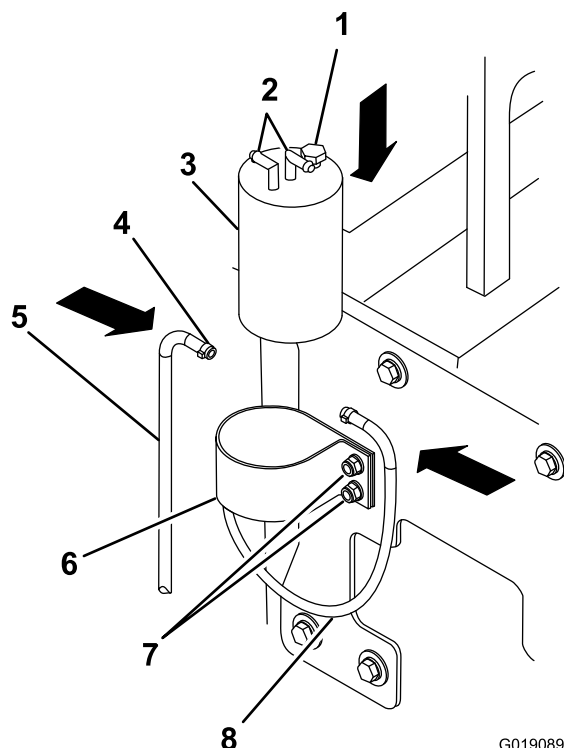

Figure 65
1. Remove the hex-head plug from the replacement fuel filter/water separator (Figure 65).
5. Install the replacement canister in straps with the hex-head plug toward the heat shield (Figure 65).
6. Tighten the nuts that secure the filter/separator canister and strap to the heat shield (Figure 65).
canister. Slide the hoses over the fittings of a new filter/separator canister (Figure 65).